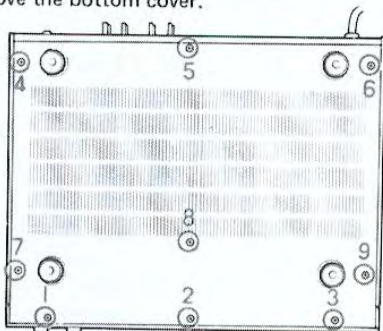
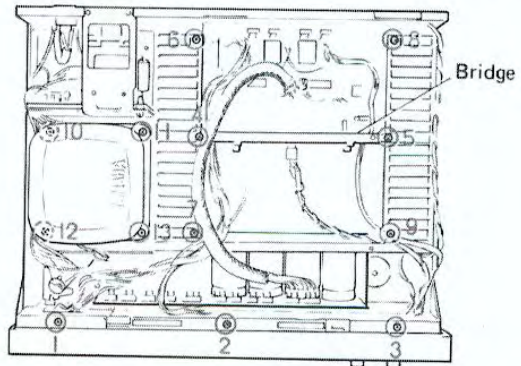

Fig. 2
Fig. 3
Remove screws ① through ⑨ in Fig. 2 and then remove the bottom cover.
- b. Remove screws ① through ③ in Fig. 3 and screws ① through ③ in Fig. 2, the front panel may be lifted out forward gently. When is performed, the illumination lamp of the power switch must be disconnected.
- c. Remove screws ④ and ⑤ in Fig. 3 and detach the bridge.
- d. Remove screws ⑧ and ⑨ in Fig. 3 and detach the heat sink.
- g. Mount the heat sink on which power and drive transistors have been secured. After the heat sink is secured with screws ⑧ and ⑨ in Fig. 3, solder the lead wires of power transistors to the main circuit board.
- a. Remove screws ⑩ through ⑬ in Fig. 3 and remove the transformer cover.